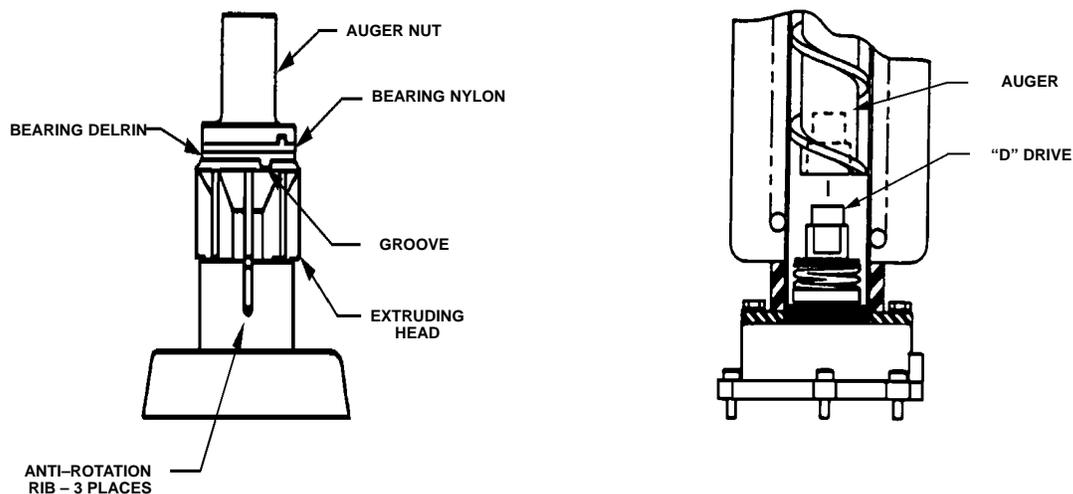

FIGURE 4. AUGER AND EXTRUDING HEAD REMOVAL
5. When replacing the auger assembly, make certain that both the auger engages the output shaft drive and the extruding head ribs engage the evaporator tube. See Figures 4.